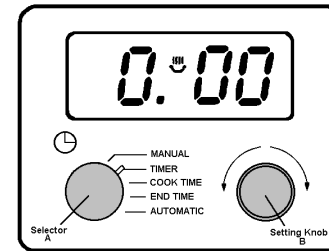

Fig.6
Turn setting knob (B), until the display shows 0.00. The cookpot (👉) symbol will glow. Fig.6.